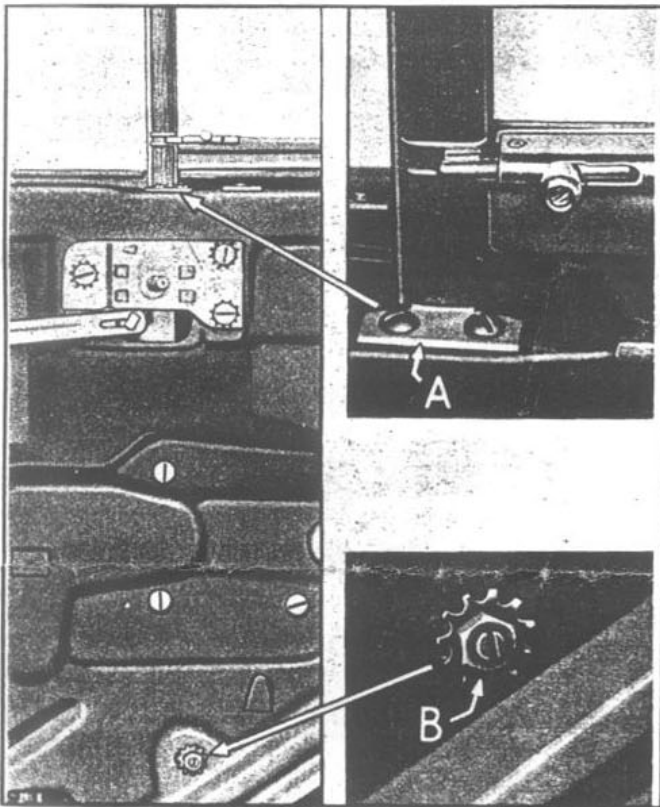

Figure No. 240
sion channel to door inner panel. (See Figure No. 240 at "A.")
5. Remove door trim pad and remove the nut and adjusting stud at the bottom of the division channel, noting before removal, the length of the stud projecting out from the inner panel. This will insure proper adjustment when replacing the stud. (See Figure No. 240 at "B.")